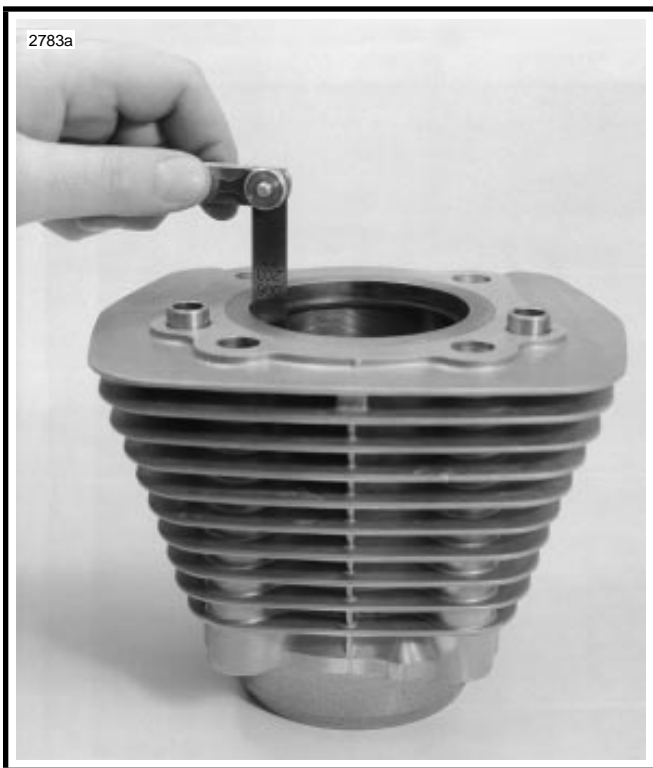

Figure 3-32. Measuring Ring End Gap
1. See Figure 3-32. Place piston in cylinder about 1/2 in. (12.7 mm) from top. Set ring to be checked squarely against piston as shown. Check end gap with thickness gauge. See SPECIFICATIONS for tolerance.